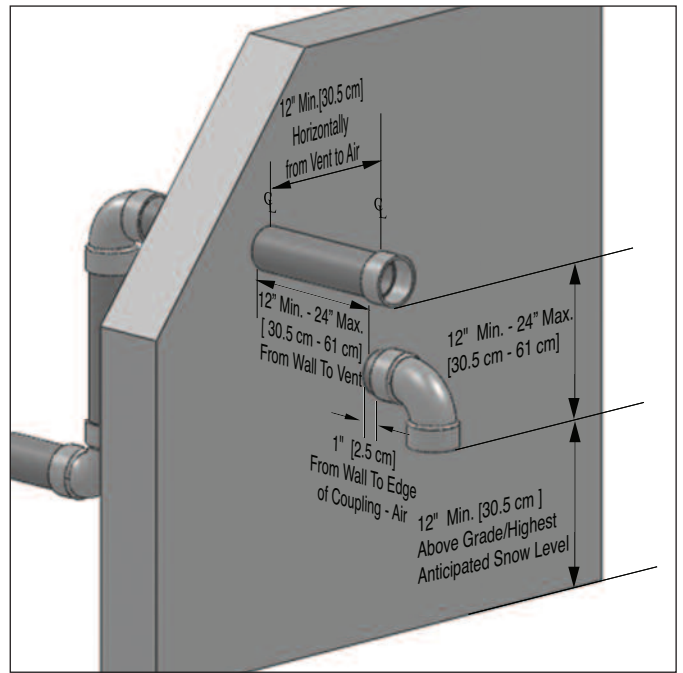

Fig. 9: Direct Vent - Alternate Sidewall Termination of Vent and Combustion Air Piping
- Using coupling as shown in Figs. 9 or 13, pages 13 or 14.
- Using coupling as shown in Figs. 9 or 13 pages 13 or 14.